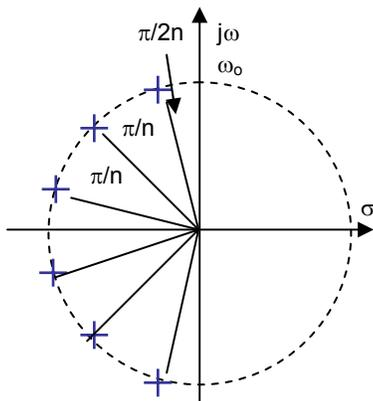

Figure 2: Poles of a Butterworth filter.
- Plot the poles on the complex s-plane for the 3rd order filter (similar to Figure 2 above).